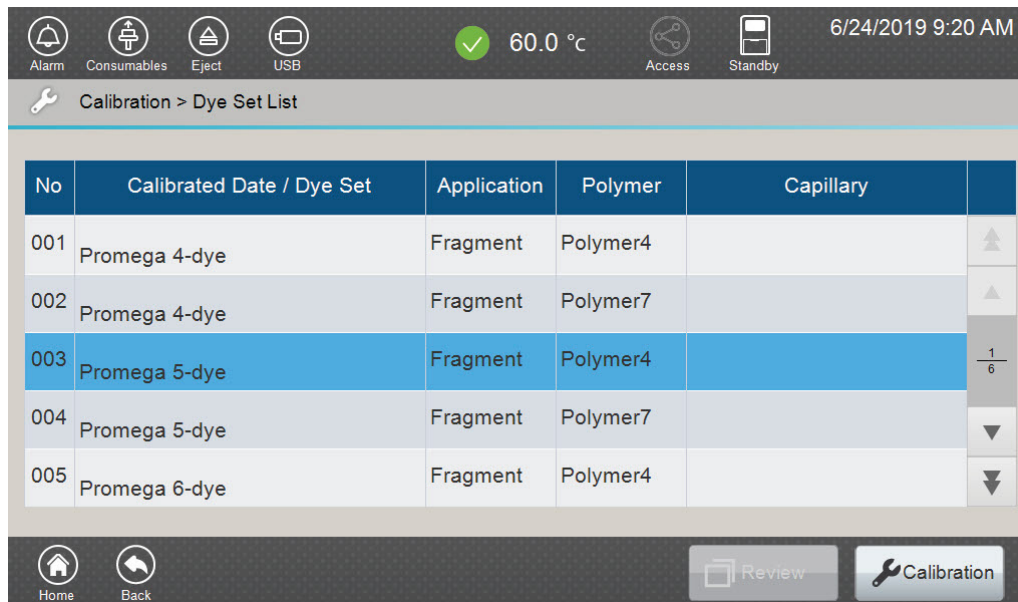
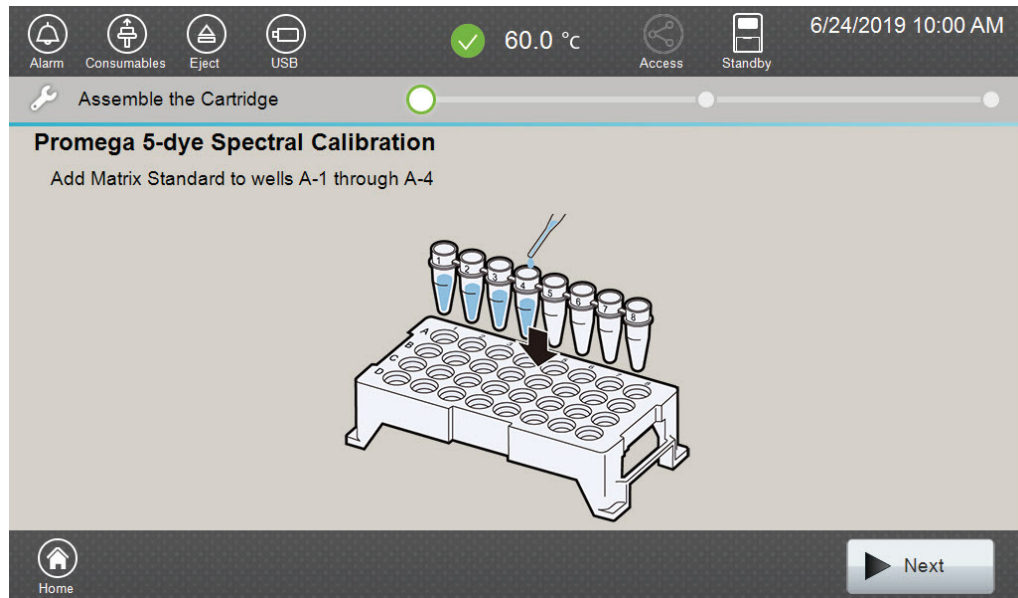

Figure 34. 'Dye Set List' screen.
Figure 35. 'Assemble the Cartridge' screen.
4. Use the scroll arrows on the right-hand side of the "Dye Set List" screen (Figure 34) to find the correct Dye Set/Application Type/Polymer combination from the displayed list. To perform a spectral calibration using the PowerPlex® 5C Matrix Standard on Polymer4, select **Promega 5-dye** with "Fragment" and "Polymer4" as application and polymer types, respectively, then select **Calibration**. The 'Assemble the Cartridge' screen will open (Figure 35).
- Select **Next** on the 'Assemble the Cartridge' screen (Figure 35). A message window will open indicating that the autosampler is moving and telling the user to not open the door. In addition, the status indicator flashes green while the autosampler is moving. After autosampler movement is complete, the message window closes and the status indicator returns to a steady green.